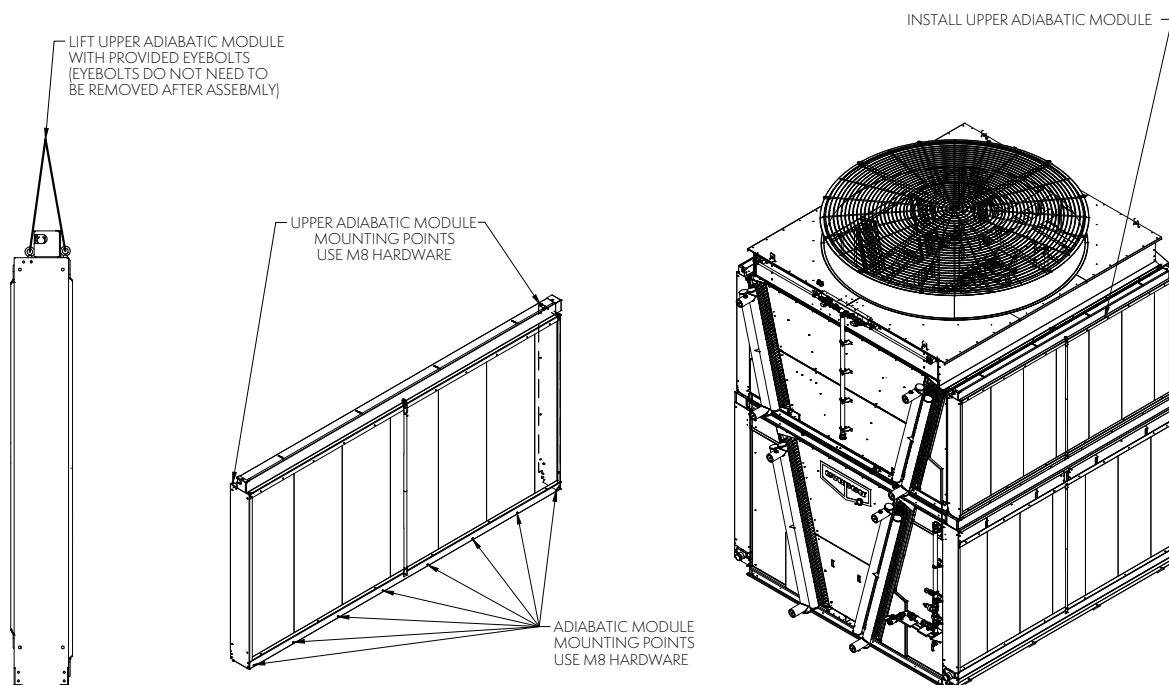

Figure 29 – Installing Upper Section Adiabatic Modules
2. Install upper adiabatic pad modules as shown below in Figure 29. Fasten each individual module, starting on the connection end, in the locations shown before moving to the next module.